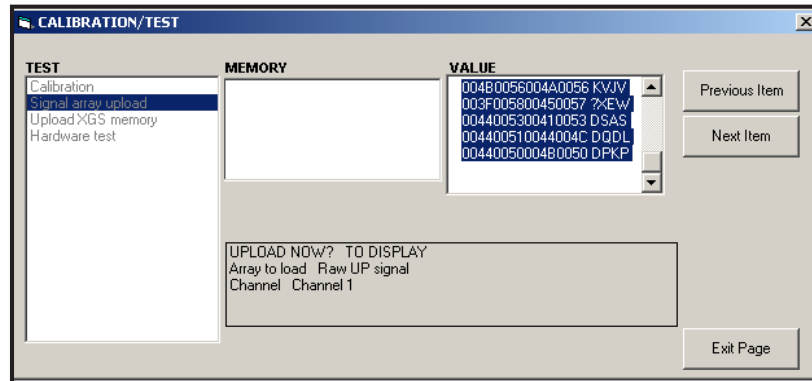

Figure 12: Signal Array Data Displayed on PanaView
- If you double-click on *To Display*, the right pane of the window appears similar to Figure 12, and the data is available for immediate evaluation. Click [Exit Page] to close the window and return to the *Calibration/Test* menu.